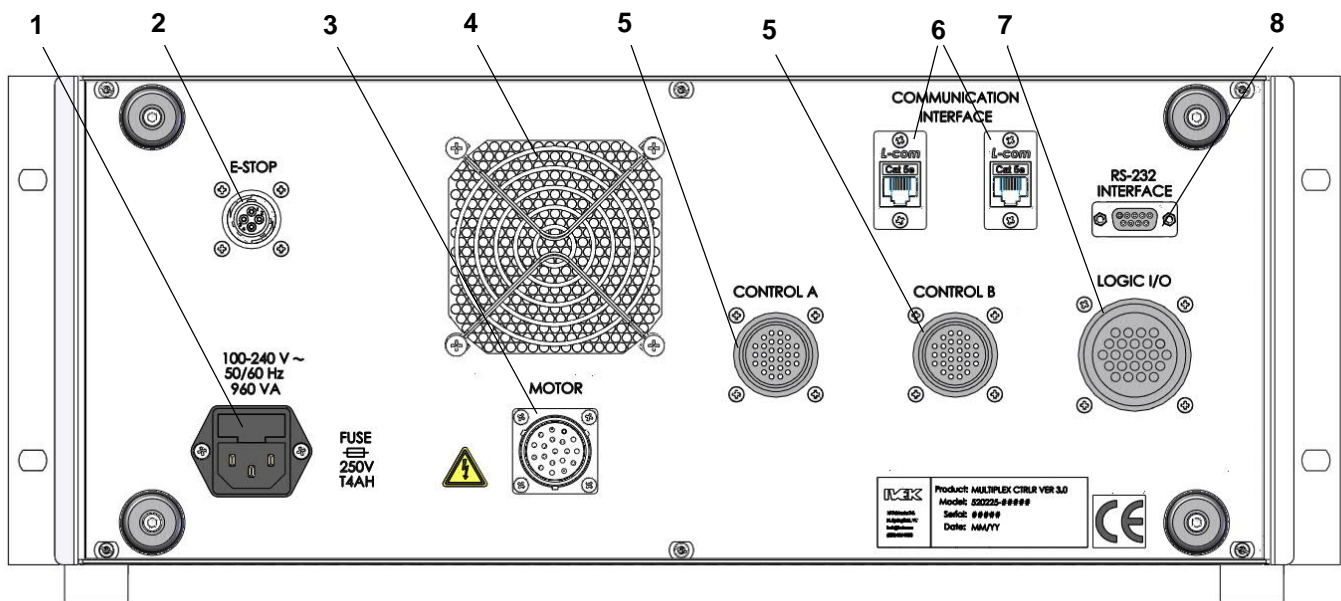

Figure 3.2 Multiplex Version 3.0 Controller Module Rear Panel
3.1.2 Control Cabinet Rear Panel (Figure 3.2)
3.1.2.1 Power Entry Module (Figure 3.2 Item 1)
3.1.2.2 E-STOP Connector (Figure 3.2 Item 2)
3.1.2.3 MOTOR Connector (Figure 3.2 Item 3)
3.1.2.4 Fan (Figure 3.2 Item 4)
3.1.2.5 CONTROL A and CONTROL B Connectors (Figure 3.2 Item 5)
3.1.2.6 CONTROLLER COMMUNICATION Connectors (Figure 3.2 Item 6)
3.1.2.7 LOGIC I/O Connector (Figure 3.2 Item 7)
3.1.2.8 RS-232 INTERFACE Connector (Figure 3.2 Item 8)